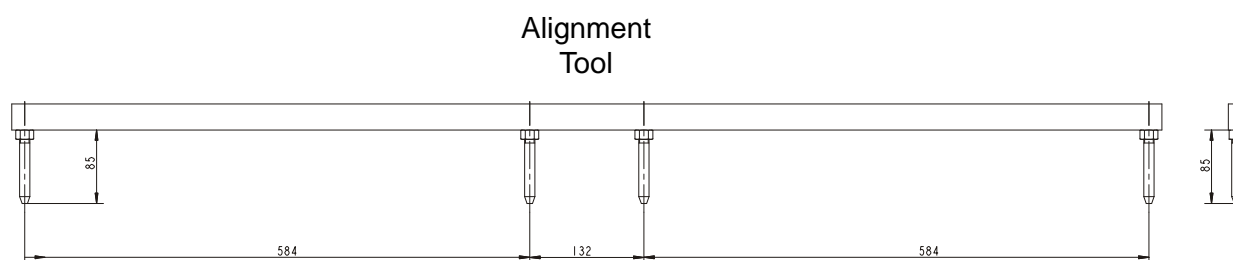

FIG. 5-24
1. The service tool can be ordered in Wood-Mizer (part. no. 099330) or you can make it yourself according to figure 5-24.
See Figure 5-24.